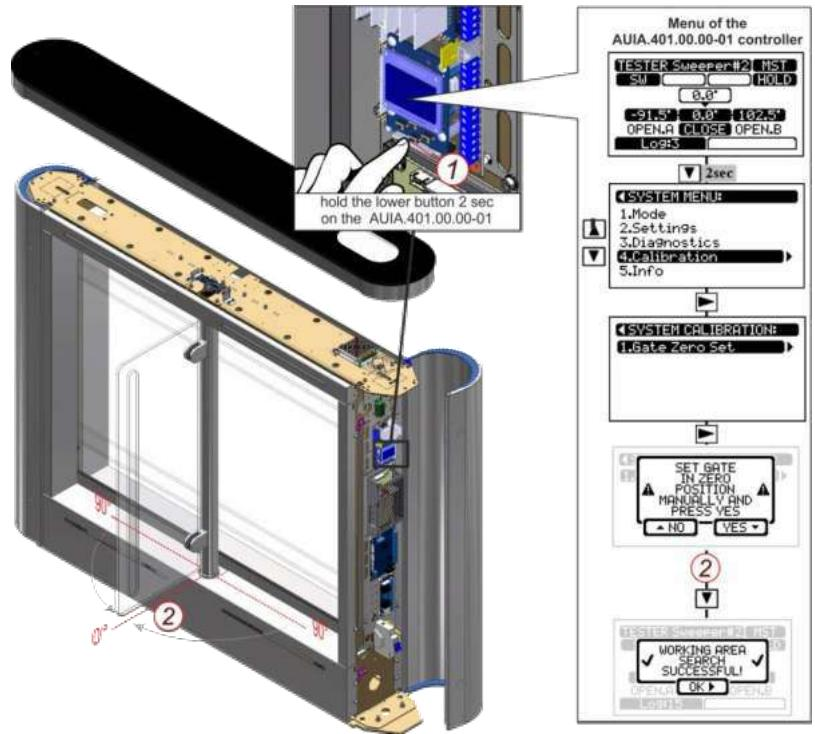

Fig.26 – Adjustment of the leaf zero position using the menu of controller AUIA.401.00.00-01
**Option II (with AUIA.401.00.00-01 fig.26)**
- Run the menu holding for 2 seconds the lower button (1) on the controller **AUIA.401.00.00-01** and choose “Calibration”->“GateZeroSet” controller. If you request a calibration procedure, the turnstile will go to “OFF” mode.
- Set the zero point of leaves of Master cabinet manually (CLOSE position (3))
- Confirm the start of working area search procedure by pressing “YES” (2) on the AUIA.401.00.00-01 controller display.
- The controller will save the user-set point as zero (**CLOSE** position (2)) and automatically determine the minimum and maximum of working area.